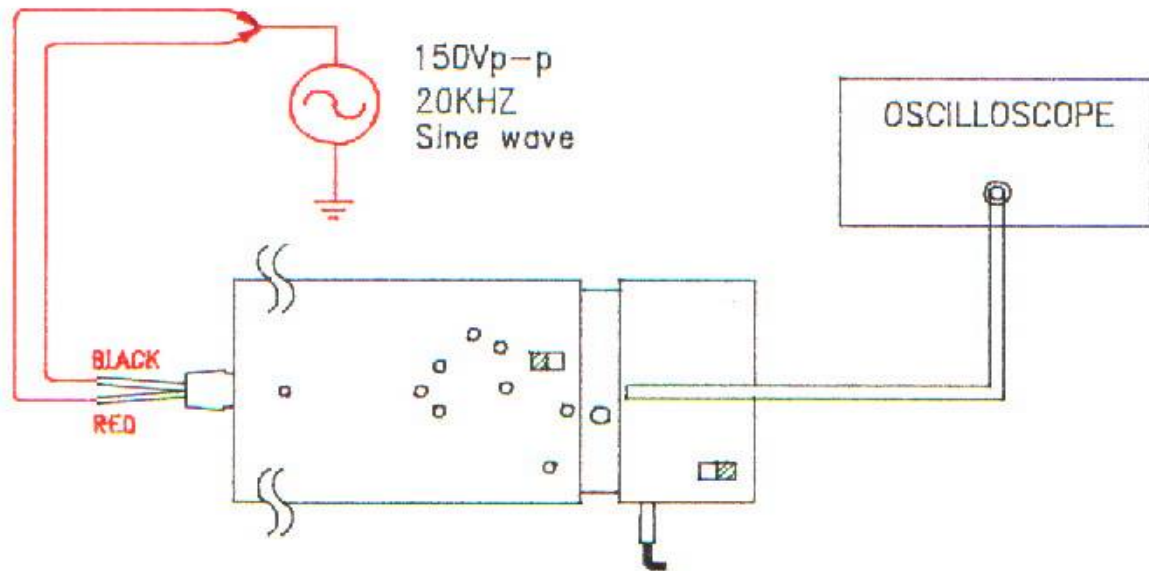

Fig. 11
- b. Referring to Fig. 11, connect output BNC to the oscilloscope has good grounding.